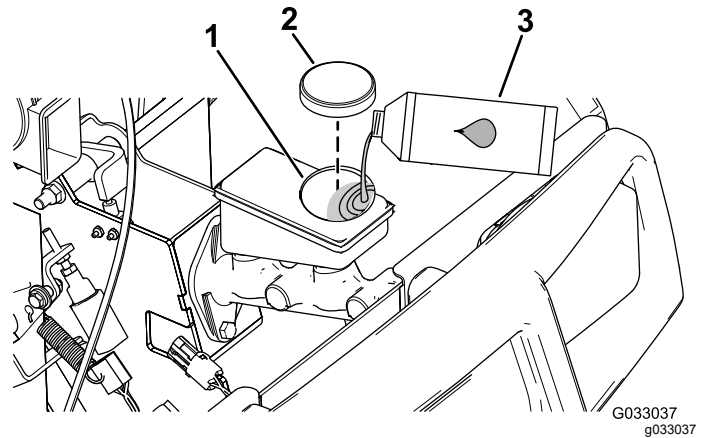

Figure 54
4. Raise the hood to access to the master brake cylinder and reservoir (Figure 54).
- A. Clean the area around the reservoir cap and remove the cap (Figure 54).
- C. Install the reservoir cap (Figure 54).